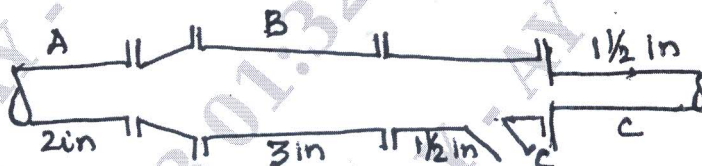

Fig Q2(b)
- b. Crude oil, specific gravity at 60°F/60°F = 0.887, flow through the Fig Q2(b). Pipe A is 2-in (50mm) schedule 40, pipe B is 3 – in (75mm) schedule 40, and each of pipes C is 1½ in (38mm) schedule 40. An equal quantity of liquid flows through each of the pipes C. The flow through pipe A is 30gel/mm (6.65 m3/h). Calculate: i) The mass flow rate in each pipe ii) The average linear velocity iii) The mass velocity in each pipe.